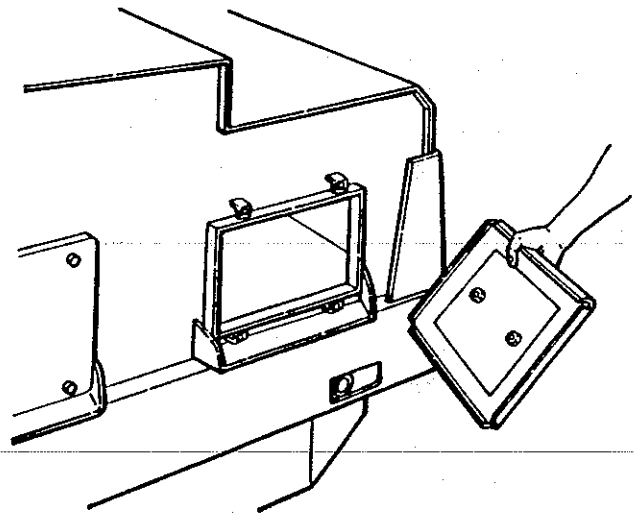

Figure 3-14. Recovery Tank Access Doors
4. Remove the two access doors located at the rear of the unit, see figure 3-14.